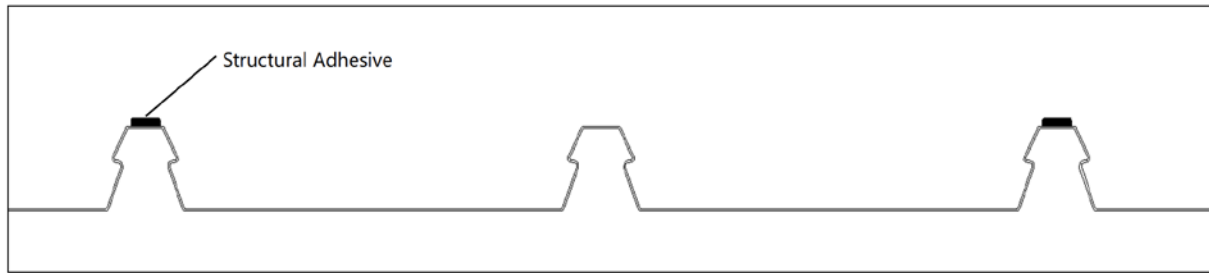

Figure 4
- ③ The cross-section of the structural adhesive should be a semi-circular shape with a width of more than 13mm and a height of more than 6mm. (Figure 4)